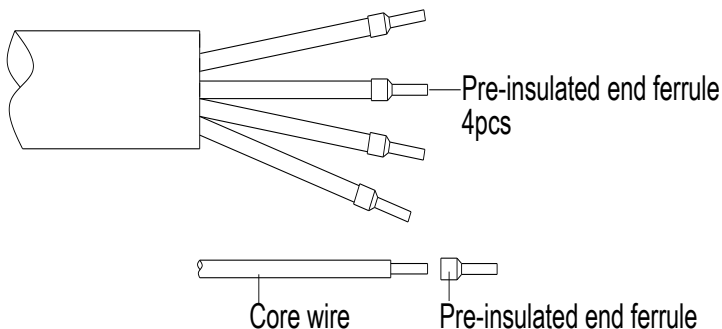

Figure 2.30 - AC Output and Ground Cable Set Up
(2) Connect the AC (L1, L2, L3, N) cables to the terminal block and use the OT type terminal to connect the ground cable to the external grounding point at the bottom of the wiring box. (see the 3rd graph in Figure 3-27) Set up the cables referring to Figure 2.30.